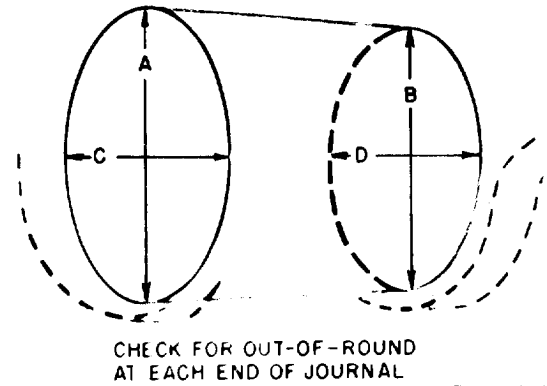

Figure 6-43. Journal Measurements.
(1) Inspect the main and connecting rod journals for cracks, scratches, grooves or scores.
(2) Measure the diameter of each journal at least four places to determine out-of-round, taper or undersize condition (fig. 6-43). Refer to table 6-6 for specifications.